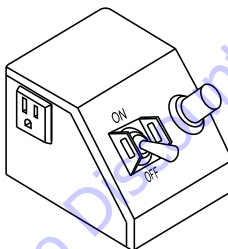

**Figure 15. Power ON/OFF Switch (ON)**
2. Turn the power ON/OFF switch (Figure 15) to the ON position with the blade away from the material to be cut, the cutting blade should begin to rotate. Before cutting remember to follow all safety rules referenced in this manual.